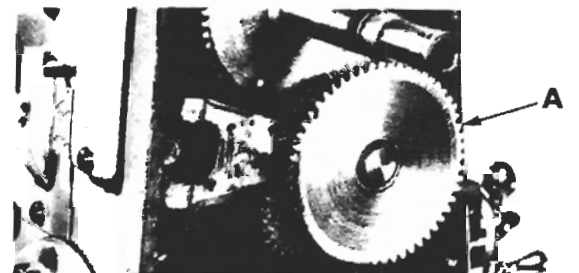

Figure 31
18. Install back gear assembly (A, fig. 31) in rear of column.